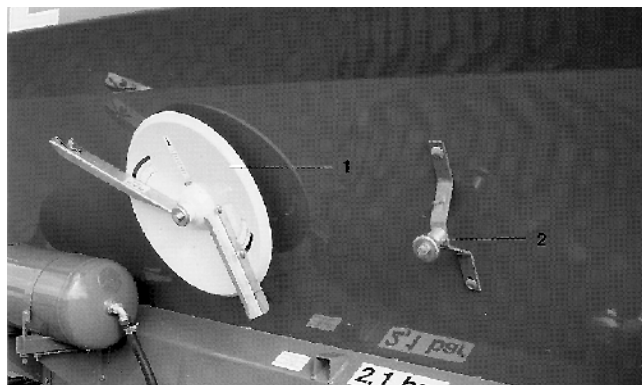

Fig. 50
**Holders (Fig. 50/2) which can be attached to the broadcasters hopper are available for additional spreading discs (Fig. 50/1).**